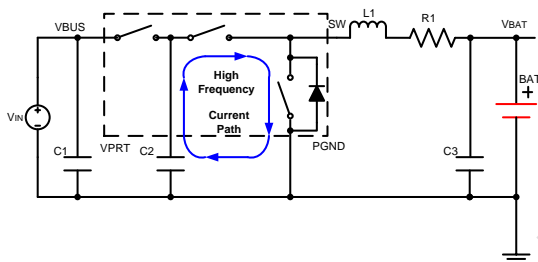

Figure 24. High Frequency Current Path
(1) To obtain optimal performance, the power input capacitors, connected from power input to PGND, should be placed as close to the IC as possible. The output inductor should be placed close to the IC and the output capacitor connected between the inductor and PGND of the IC. The intention is to minimize the current path loop area (from the SW pin through the LC filter to the PGND pin and back to IC). To prevent high frequency oscillation problem, use proper layout to minimize high frequency current path loop (See Figure 24). The sense resistor should be close to the junction of the output capacitor and inductor. The sense path must connect to the underneath